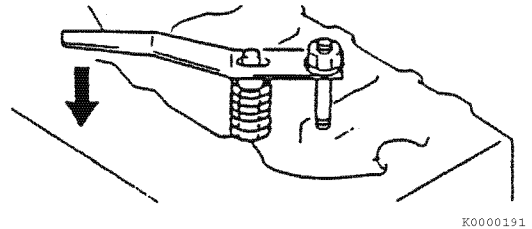

Figure 6-9
3. Using the valve spring compressor tool, compress one of the valve springs (**Figure 6-9**).